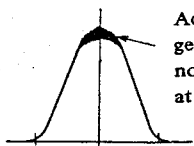

Fig. 11
- (1) At the article 1-(2). By the core of T101, T102, T103 and T105 let it be adjusted so that the gain will be max. And the wave form should be adjusted so that it will be the one of the Fig. 11. In this case, the output voltage at the surveying point of TP. 2 is weak, so let it be adjusted by connecting shown at Fig. 12, using V.T.V.M. Next, adjust it by T109 core, so that the wave form of Fig. 11 will dip just as Fig. 13 and at this time of adjustment stop the oscillation. (Oscillation variable capacitor is shorted.)